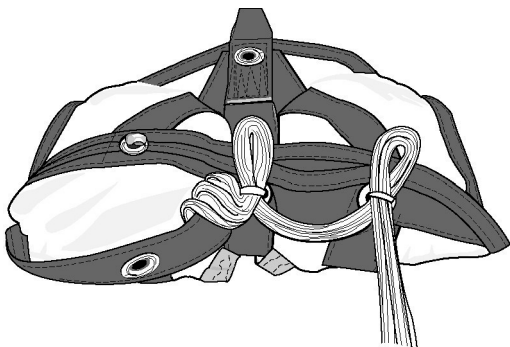

Figure 16. Second Suspension Line Group Stow
e. Make the second stow on the right-side by forming a loop in the suspension line group, wrap pull up cord around the suspension line group and pull it through the right locking loop until 1 to 1 1/2-in. protrude past the loop (Figure 16).